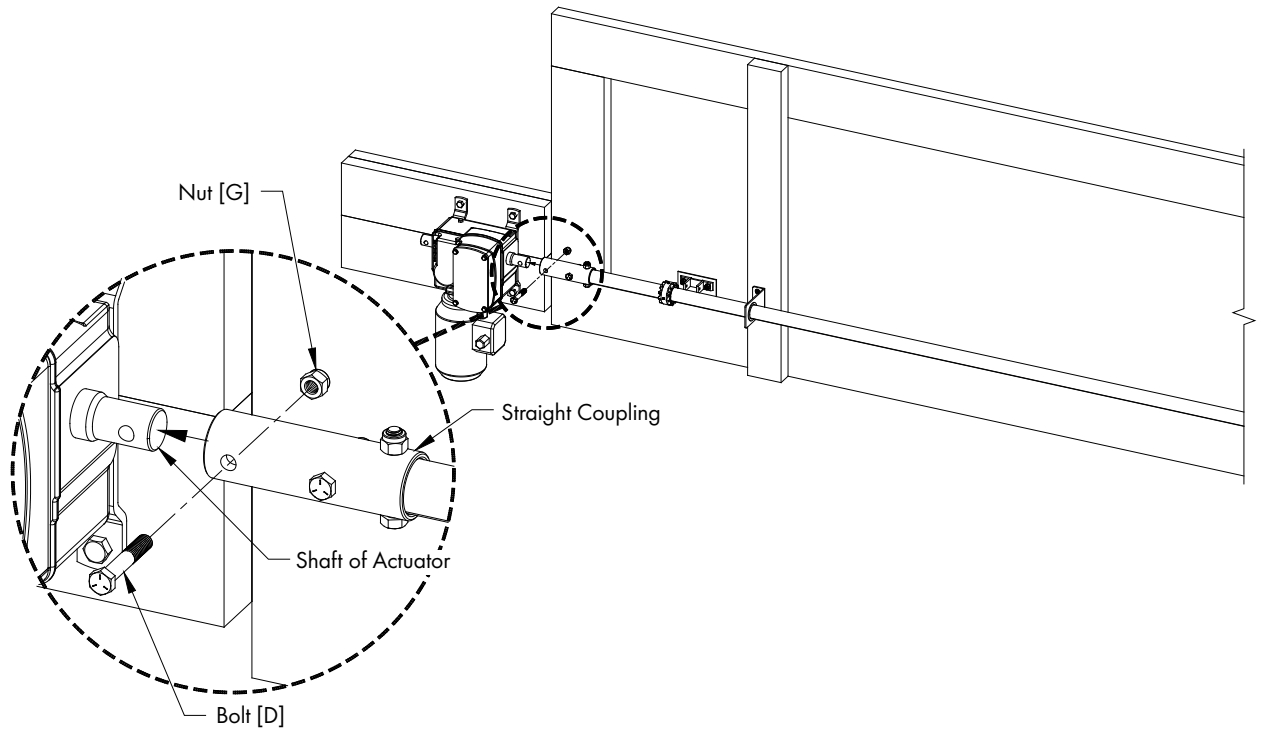

Figure 36
Align the hole in the Straight Coupling on Drive Pipe with the hole in the Shaft of Actuator and secure with (1) Bolts [D] and Nuts [G]. See Figure 36.